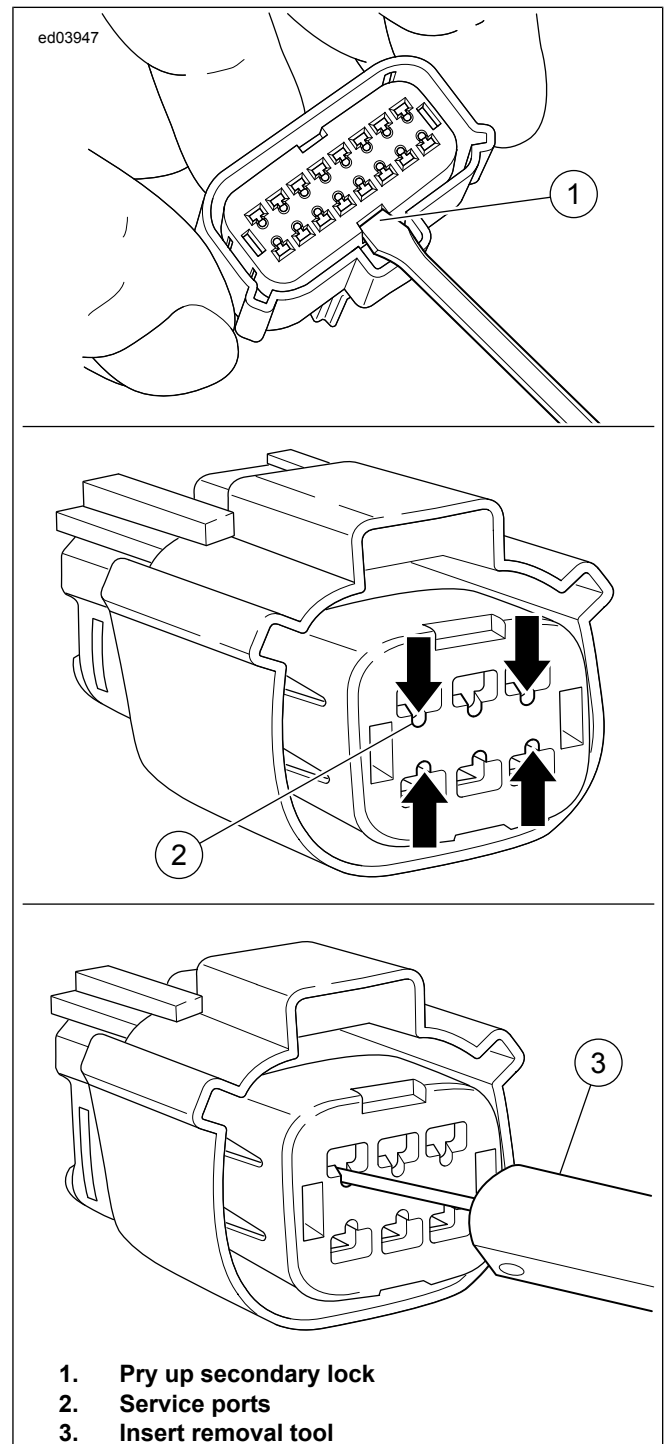

Figure B-34. Terminal Removal: Female
1. See Figure B-34. Insert a small screwdriver into the secondary lock release.